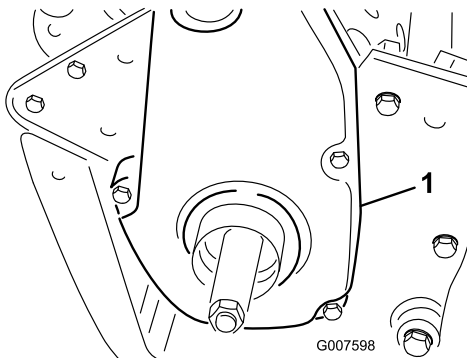

Figure 42
6. Remove the rear belt cover from the right side of the machine (Figure 42).